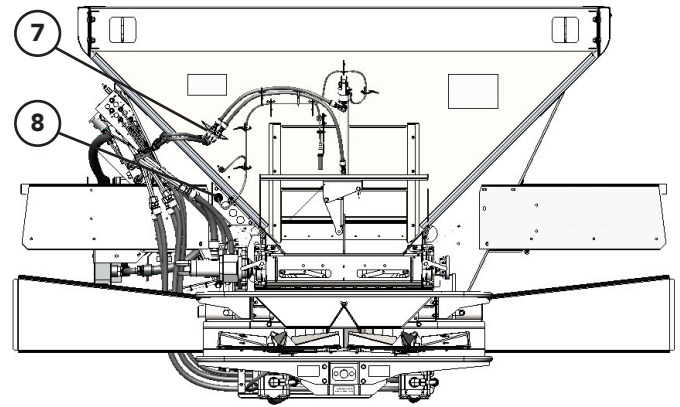

Figure 1B
- Figure 1B - Disconnect Feedgate Hydraulic Hoses (7) and Electrical Harness (8).